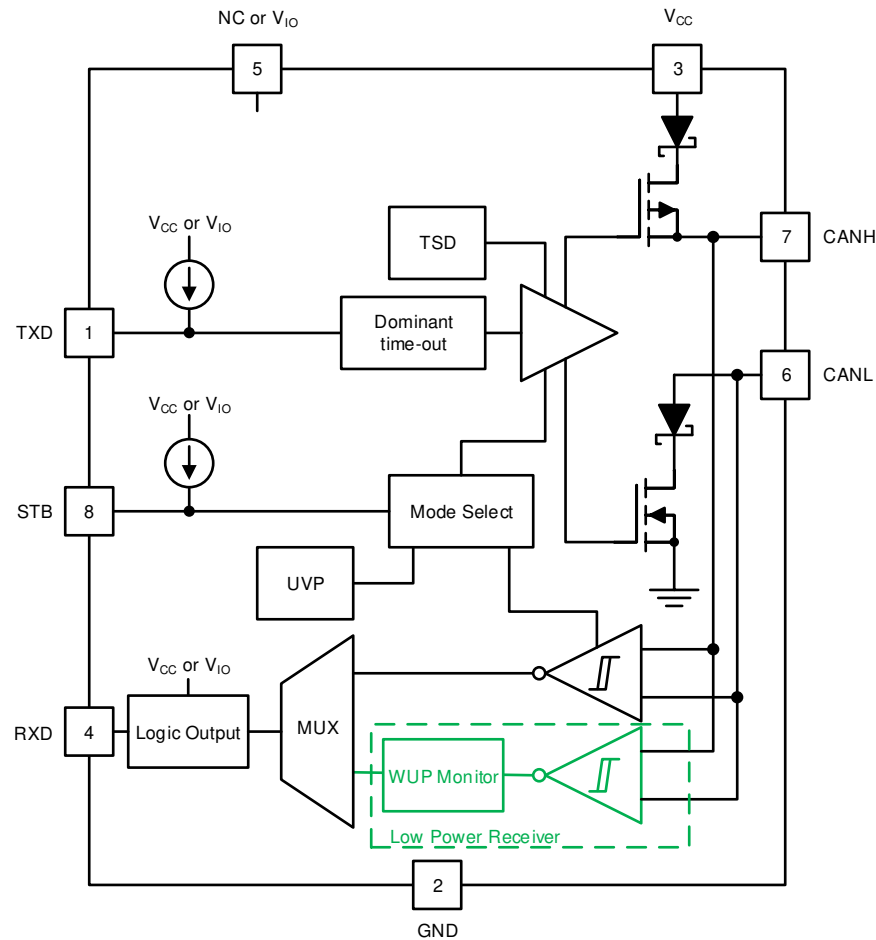

Figure 1-1. TCAN844-Q1 and TCAN844V-Q1 Functional Block Diagram
Figure 1-1 shows the device functional block diagram for reference. TCAN844-Q1 has the V_{IO} input at pin 5, while TCAN844V-Q1 has a no connect (NC) at pin 5.